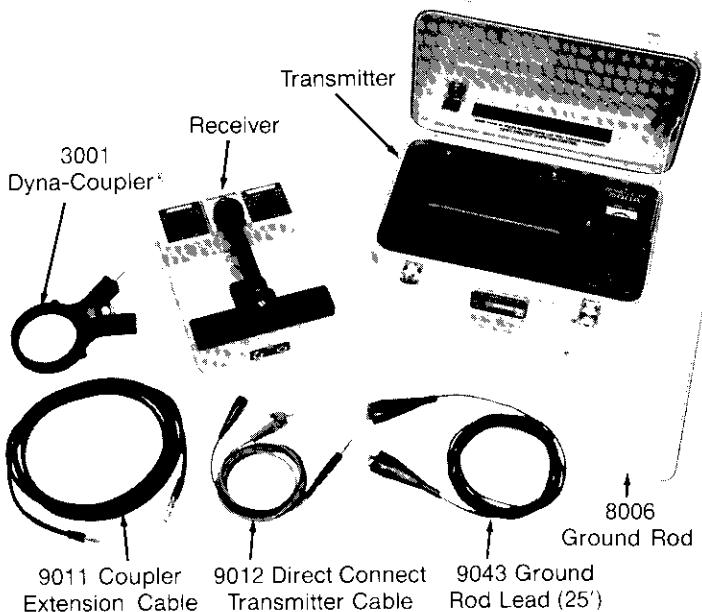

Fig. 2 — The 500A Cable Locator with Accessory Units
2.01 **TRANSMITTER & RECEIVER:** The Cable Locator consists of a transmitter, a receiver, and accessory items (Fig. 2). The transmitter and receiver cases are made of high-density polyethylene for light weight and high durability, and are colored bright yellow for visibility. Both are water-resistant in wet-weather operation. For compact storage and carrying, the receiver and accessories fit into the transmitter case. To preserve battery life, "off" switches are activated on both Transmitter and Receiver when the receiver is fitted into the transmitter case. A stainless steel ground rod is clipped to the set's lid.